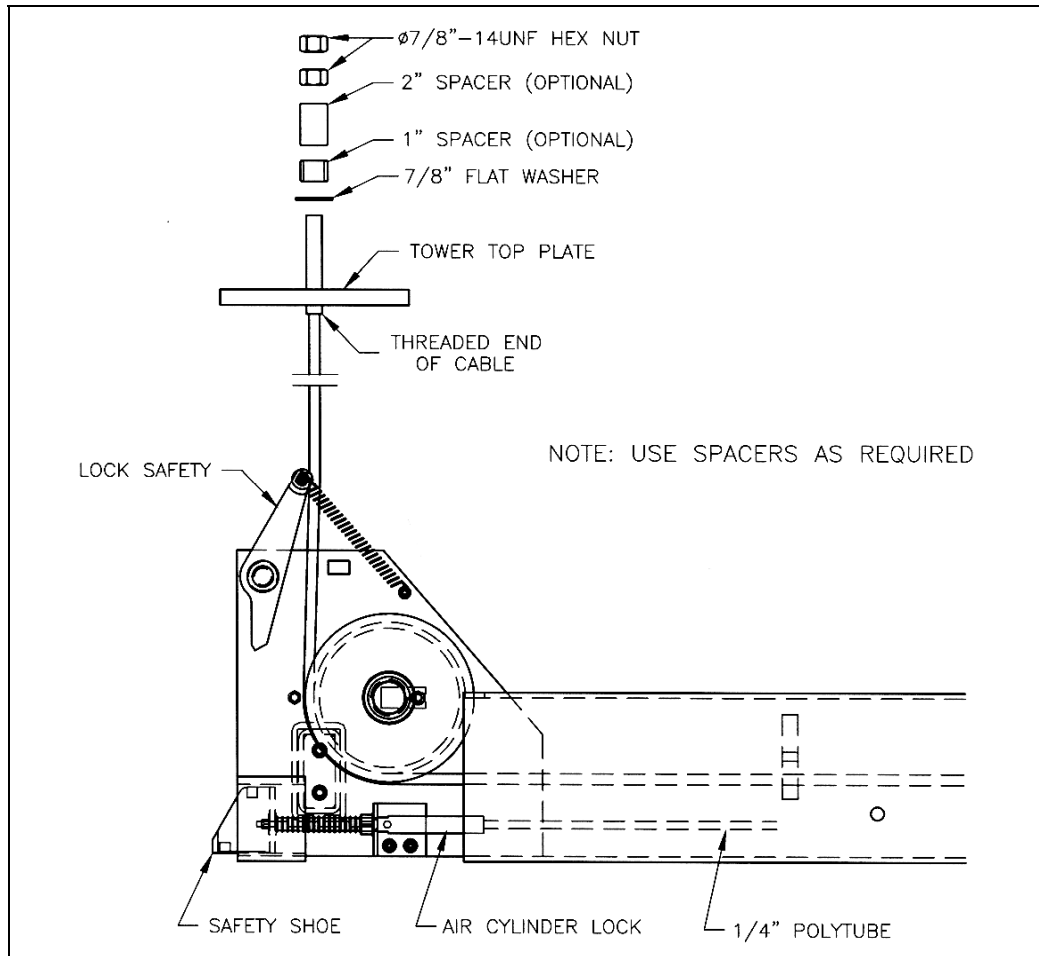

Figure 17. Cable routing diagram
1. Assemble each cable to the top plate of their respective towers. Secure in place with 7/8" washer and two 7/8" hex nuts. See **Figure 17**.